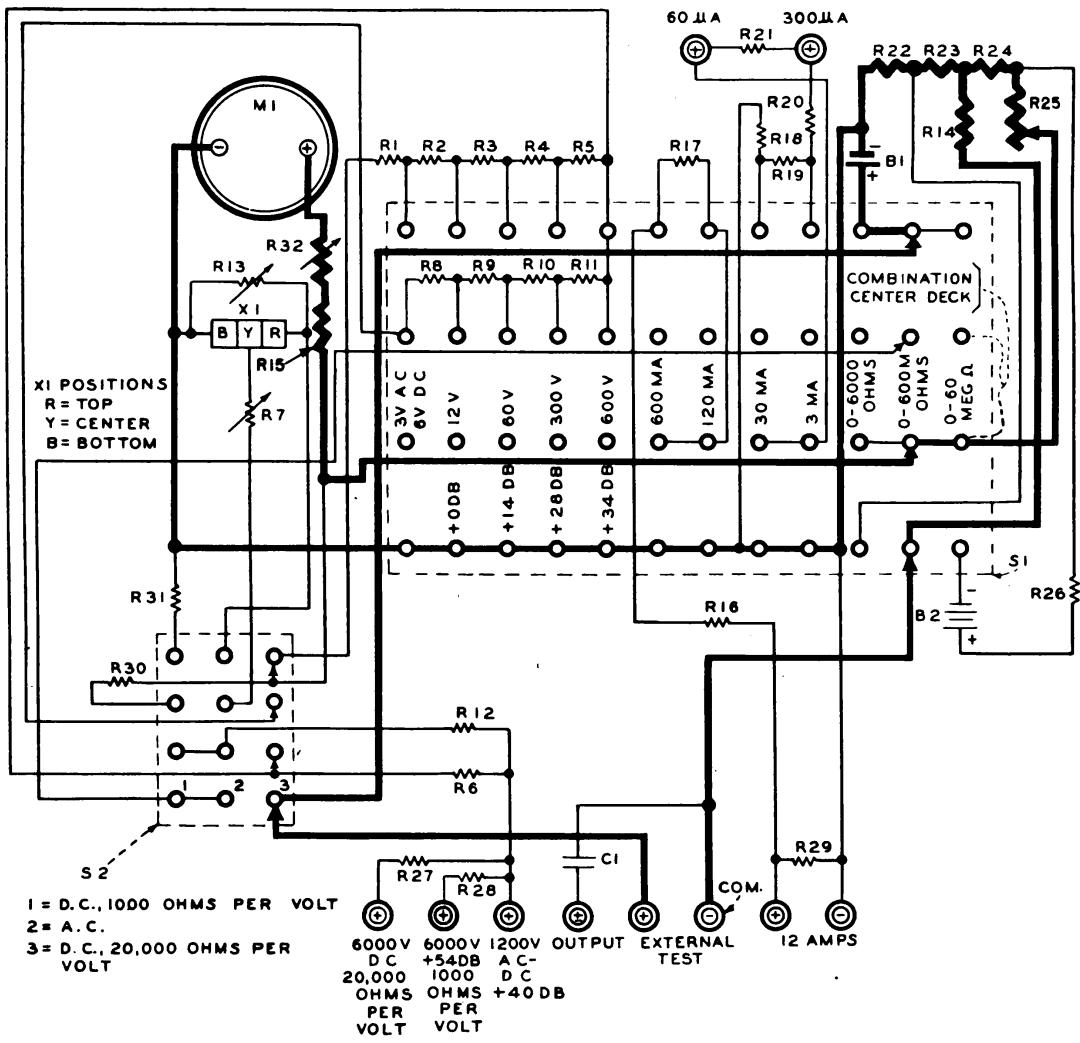

Figure 5. Ohmmeter circuit using 600,000 ohms range.
e. Ohmmeter. A simplified schematic diagram of the ohmmeter circuit for the lower ranges is shown in figure 5. The high ohmmeter range' (0-60 megohms) is essentially the same except for the use of a 22.5-volt battery and an additional series resistor.